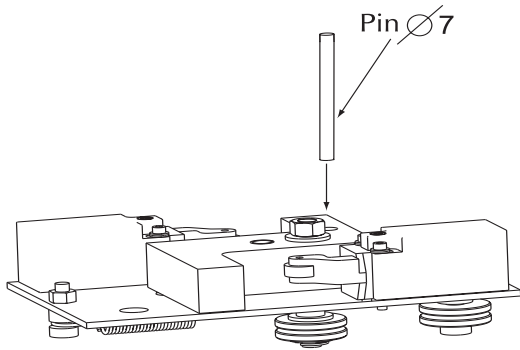

Fig. 13
- Use something like a pin (diameter 7) to set cam in middle position, see Fig. 13 and then tighten cable to achieve the correct setting.